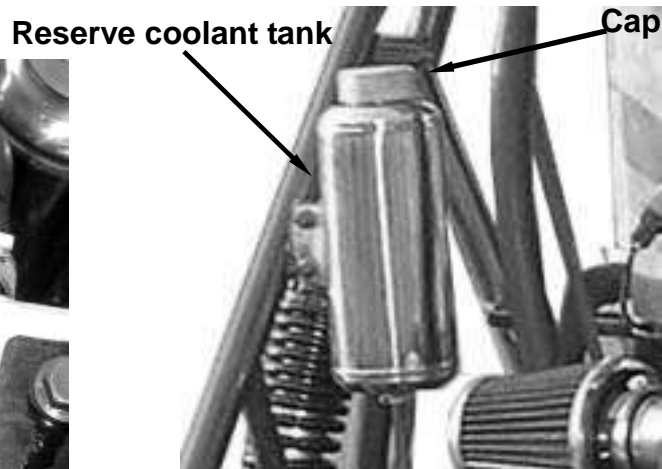

FIGURE 42
5. Top up the reserve coolant (See Fig. 42)